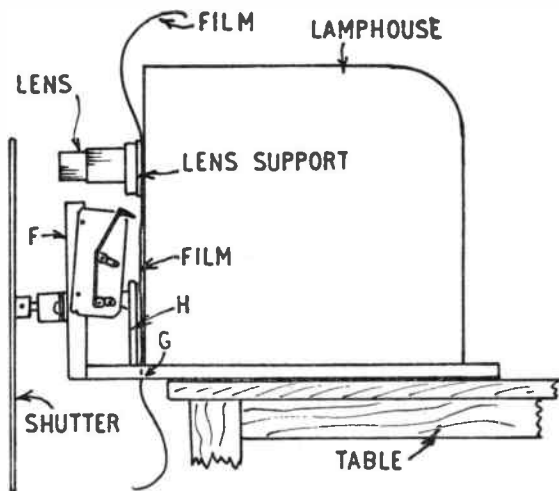

Fig. 4—Side view of projector
Fig. 4 shows one side of the projector, and each side is made of $\frac{1}{4}$ in. wood, 5ins. by 5ins. To gain access to the lamp, etc., the whole lamphouse, with top and back, lifts off, leaving the front, with lens support, etc., in position. A single piece of thin metal forms both top and back, being 4ins. wide and just under 10ins. long. No ventilation is required for battery operation, but this will be necessary if a mains bulb is used, as will be explained.
A little adjustment may be necessary to get the working parts correctly placed, and the piece holding the transport movement may be slanted in a little, as in Fig. 4, so that the film is properly engaged. The top screw can then be driven in.
it may be found that the film does not come to rest with each picture squarely in the aperture, but the bottom of one frame is seen with the top of the next. If so, then the piece (F) in Fig. 4 is unscrewed, and moved slightly downwards. Once the correct position is found any projecting wood can be sawn off, and this piece screwed securely to the base, as no further alteration will be required, even with other films.
Cartoon or other movie film strips can be used, and these do not really require winding spools. The length of film can be fed in from above, passed down between lens-support and lamp-house, past the claw movement, and out through a slot cut in the base, at (G) in Fig. 4. A thin strip of wood (H) prevents the film forming a loop forwards, where the crank might foul it. This strip is screwed to the front of the lamp-house, a piece of thick card or thin